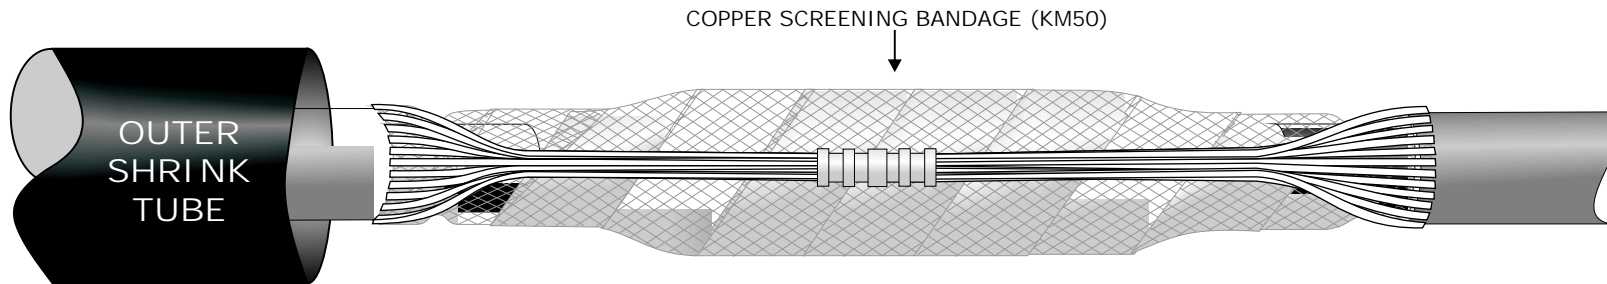

Fig 7
17. Wrap a layer of KM50 Copper Screening Bandage over the joint area and secure. Bend the Copper Wire Screen back over the Joint and twist the ends together to form a stranded Conductor. Join the two Wire Screens with a Crimp Ferrule as shown in Fig 7.